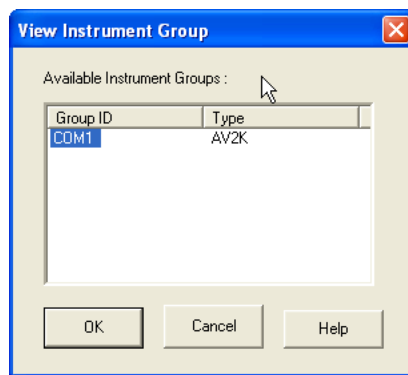

Figure 8: View Instrument Group Window
7. Open the **View Instrument Group** window (if it is not already open) by clicking **View Instrument** from the Main menu and selecting the desired instrument group from the list box. Refer to Figure 8.